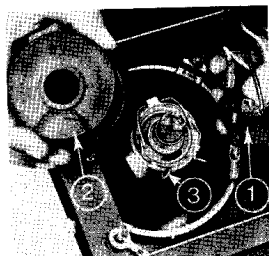

FIG. 38
2. Fig. 38. Remove the plug (1) then the rubber surround (2).
3. Release the spring clip (3) then remove the bulb.